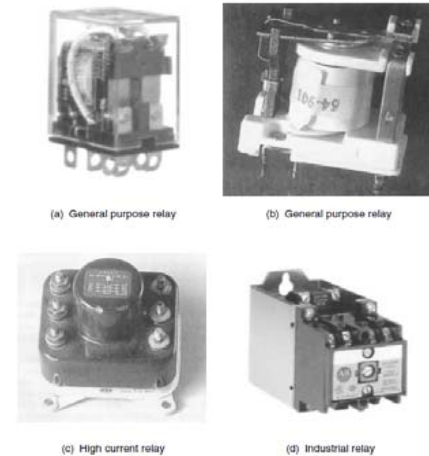

Figure 3.36
- Figure 3.36 shows a selection of different relays.